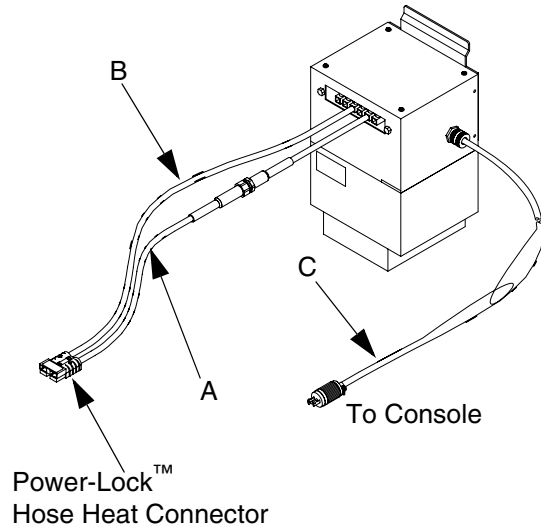
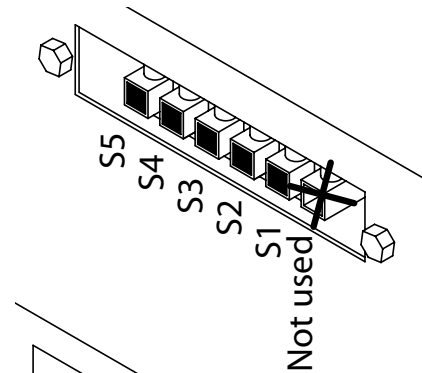

FIG. 6: Transformer Connections
FIG. 7: Manual Tap Settings
4. Use FIG. 6 and FIG. 7 and the following chart to connect tap wires (A) and (B) to transformer taps that match hose length to be used.